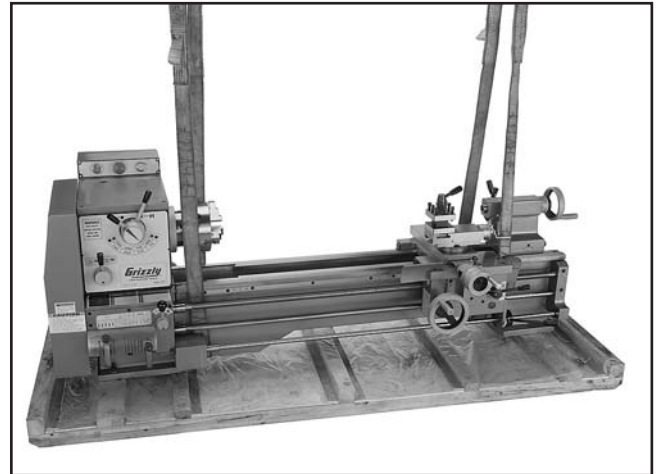

Figure 6. Lifting method for lathe.
4. Prevent damage to the lead screw, feed rod, or ON/OFF rod by threading the slings between the bedway and the rods (**Figure 6**). Adjust the balance by moving the carriage.